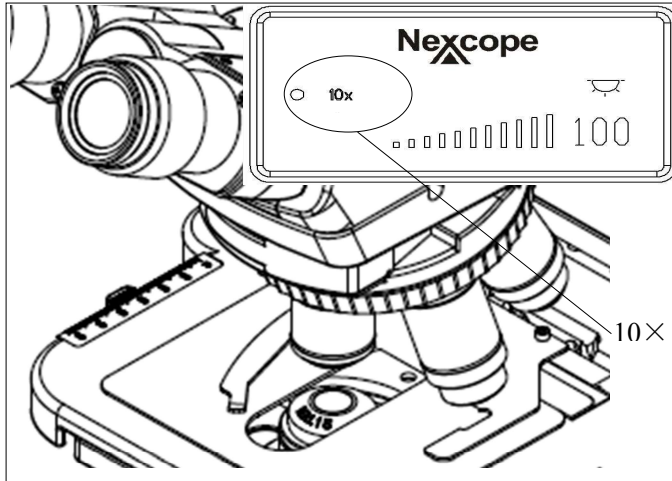

Fig.7
3-2-5 Install Objective Lens(Fig.7)
2. After the customer turns on the power supply, the converter turns to a certain position, and the corresponding objective lens doubling rate on the LCD screen will illuminate (as shown in Fig.7), and the corresponding objective lens is installed in that position.